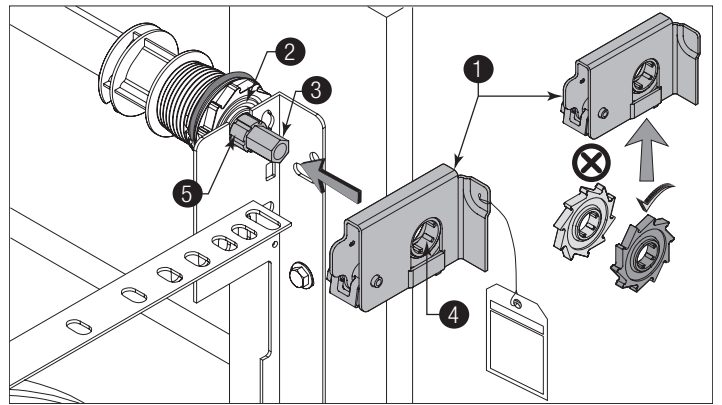
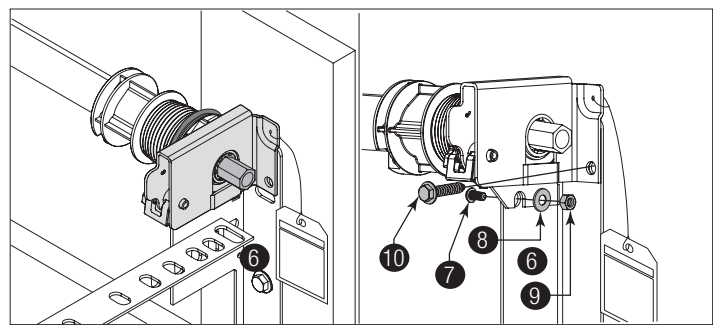

Figure 33, Right Side Shown
Figure 34
**See Figure 33 and Figure 34 for the following steps.**